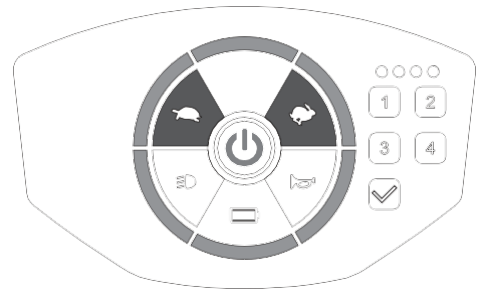

Figure 9
- Press the power switch to get the scooter on power standby (red light on), then press and hold both acceleration [] / deceleration [] buttons for 2 seconds. The panel light will be all on when scooter is ready for backlight setting. (Figure 9)